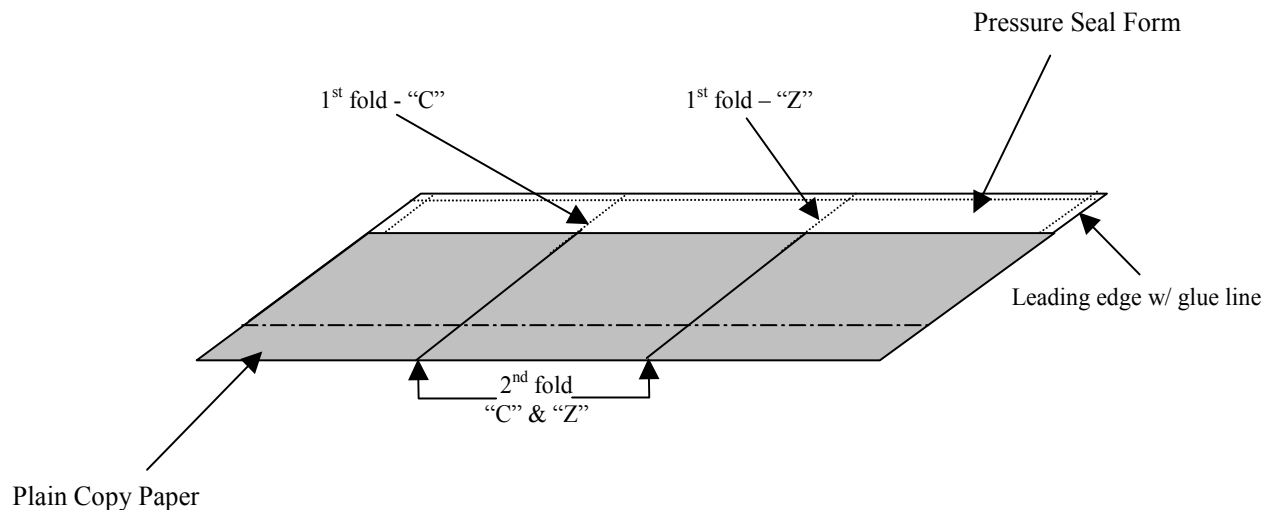

Figure 8
5. Check to see if folds on the plain paper line up with the fold perforations of the pressure seal form (see figure 8, below). If the folds on the plain paper & fold perforations on the pressure seal forms do not line up, adjust the fold plates (see fold plate adjustment on page 3).